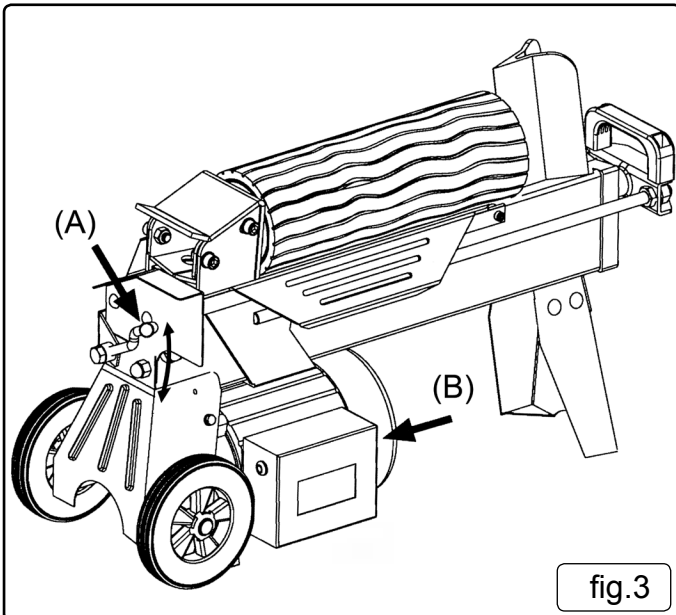

fig.3
- 6.1. The control system of the log splitter requires the operator to use both hands. The left hand will control the hydraulic control lever (A) and the right hand controls the motor push button (B) as shown below in fig.3. If either hand is removed from the controls the log pusher stops. When both hands are removed from the controls the ram retracts and the log pusher automatically returns to the start position.
- 6.4. Place a log onto the table as shown above in fig.3 ensuring that it sits between the log guides and the grain is aligned with the splitting wedge.